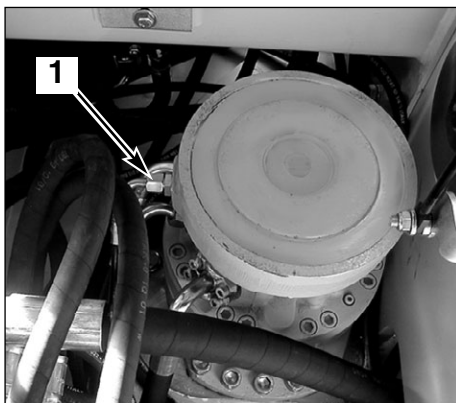

Fig. 5
- Disconnect the supply to the brake (1 fig. 5).